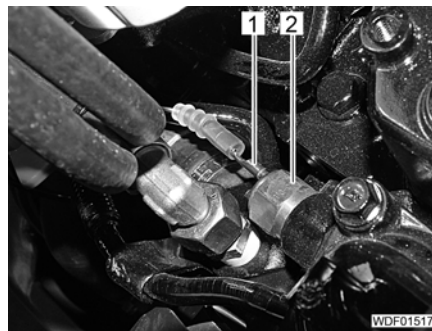

Fig. 79 Temperature sensor on the engine
- ▷ The temperature sensor in the engine (Fig. 79) switches on the control lamp at 110 °C.
- Remove connector (Fig. 79,1).
- If the warning lamp extinguishes, replace temperature sensor (Fig. 79,2) (see Part 4, section "Replacing engine temperature sensor").